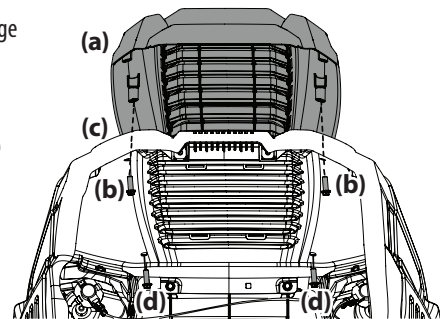

Figure 5
2. Secure the screw-on hood topper (a) from below, hand-tighten the screws (b) on the rear half of the hood and then securely tighten them. See Figure 5.
- With the rear screws in place, align the holes in the hood topper (a) with the holes in the hood (c) and secure in place with remaining two screws (d). See Figure 5 on page 7.